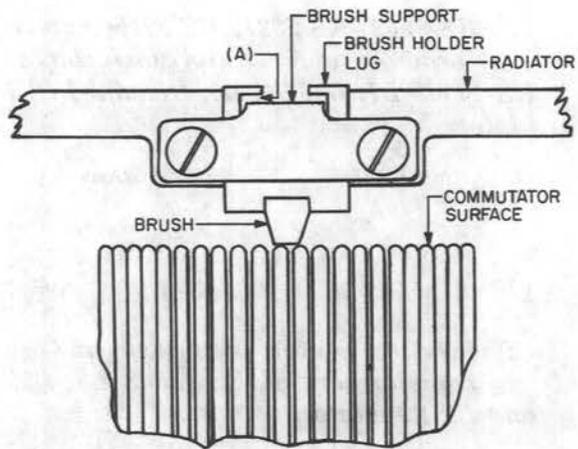

Fig. 6 - Partial View of Autotransformer of KS-15908 L2 Regulator Showing Spring-Loaded-Type Brush Assembly
Autotransformers of KS-15908 L2 Regulators: Fig. 6
2.09 Clearance Between Brush Holder Lugs and Brush Support: Fig. 6(A)